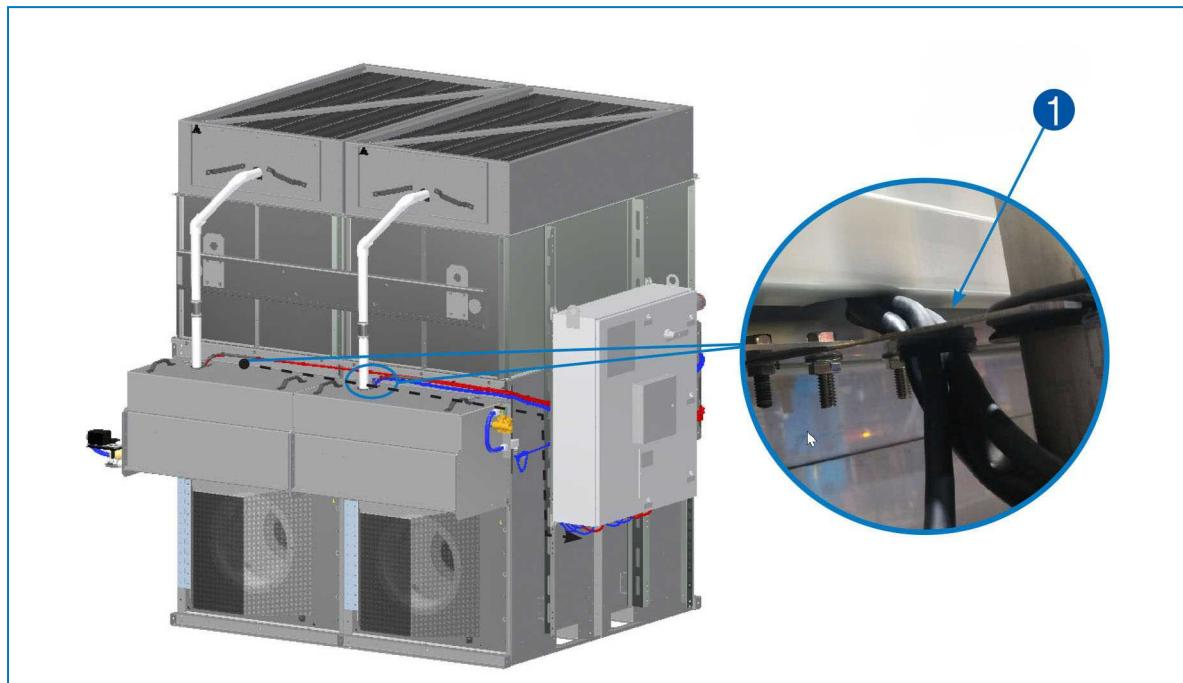

Fig. 18 Pump wire to the iPilot™ Control System panel - 1. Pump wiring through grommet.
8. Route pump wire through grommet at top of spray water basin. Follow wire path toward the control panel end. Pull pump wire through top oblong hotel with edge trim on control panel mount channel. Pull each wire through individual cord grips at the bottom of the control panel, then connect each wire to the correct terminal block. Please follow wire diagram located within the control panel. See figure 18.